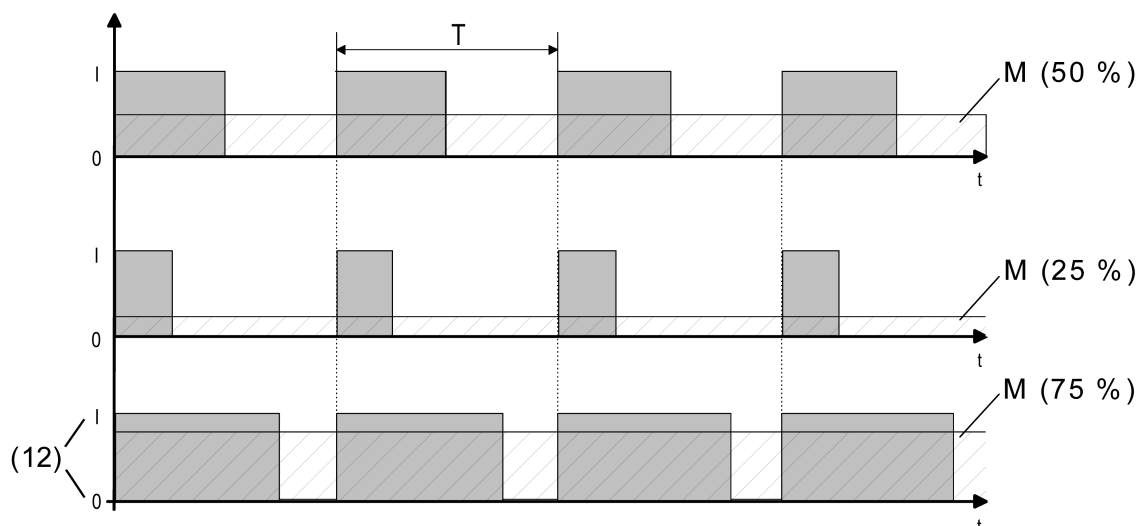

Figure 16: Pulse width modulation of a valve output signal
As soon as that device should set a constant command value or a valve setpoint position value configured in the ETS, it modulates the output signal using the switch-on pulse width. Taking the cycle time (T) settable in the device into account, the average output signal (M) resulting from this modulation is a measure of the centred valve position of the control valve and thus a reference for the set room temperature (Figure 16).